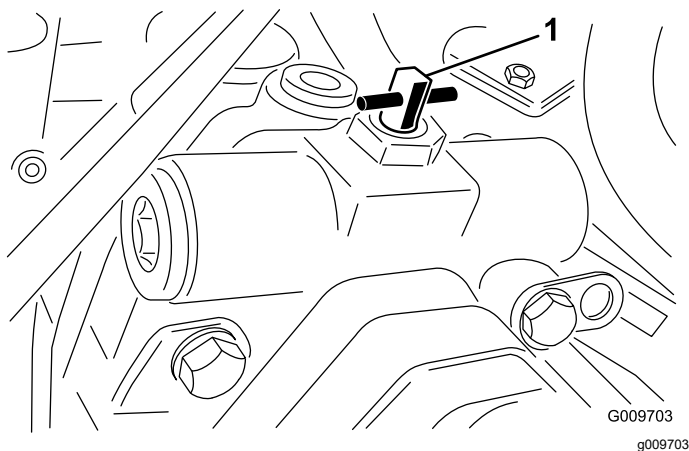

Figure 64
- Rotate the bypass valve 90° (1/4 turn) in either direction to open it and allow fluid to bypass internally (Figure 64).
2. Rotate the bypass valve 90° (1/4 turn) in either direction to open it and allow fluid to bypass internally (Figure 64).